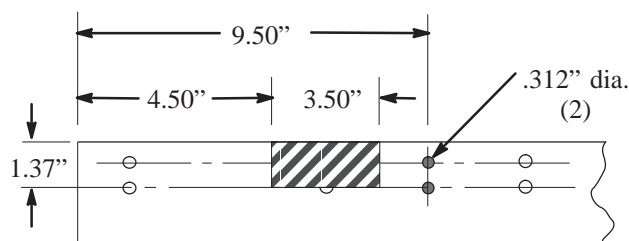

Figure 1
- Using dimensions shown in figure 1, locate, mark and cut slot and drill holes in wiper for deck **Model 30551**. Use dimensions in figure 2 to locate, mark and cut slot in wiper for deck **Model 30553**. Note position of wiper and holes.